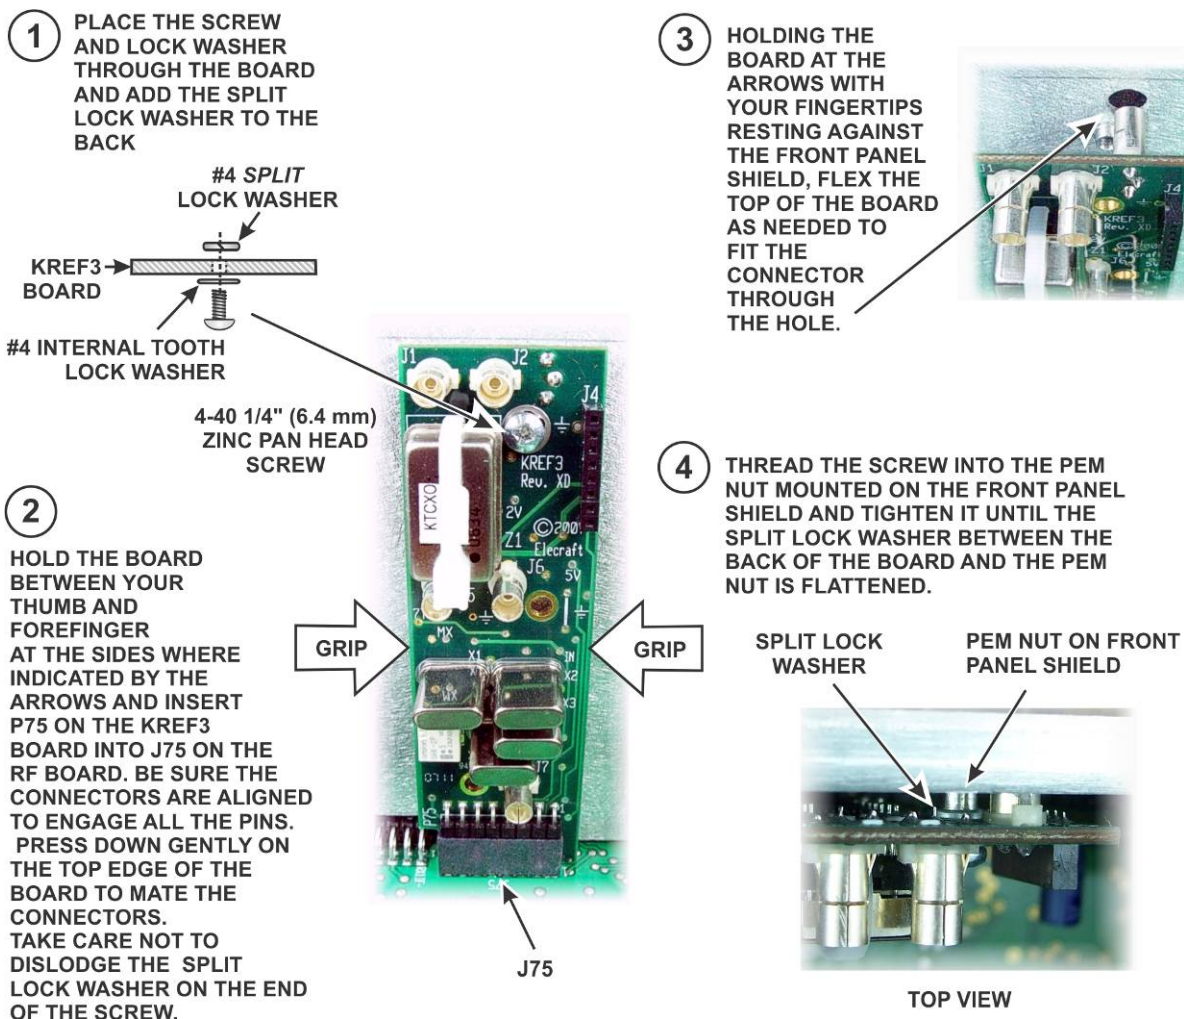

Figure 78. Installing KREF3 Board.
□ Install the KREF3 board on the back side of the front panel shield as shown in Figure 78. The board plugs into the J75 KREF3 connector just behind the shield. **Be certain you use a split lock washer between the KREF3 board and the PEM nut attached to the shield. An internal tooth washer may short out nearby circuit traces.**